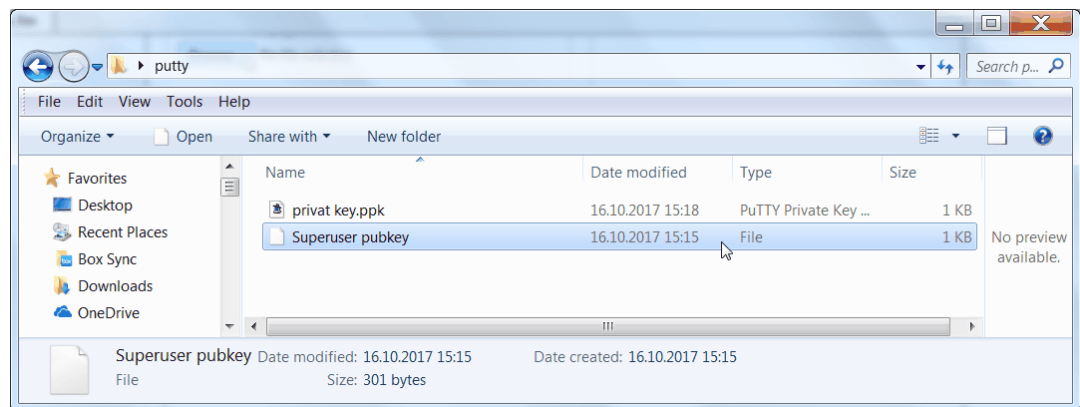

Figure A-9 Selection of the public SSH key
4. Select your public key, and click **Open** (Figure A-9).